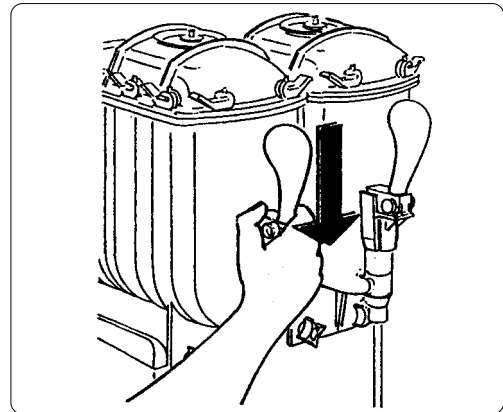

Fig. 19
g) Reposition the tap in its seating, ensuring it is inserted fully. Fill the tank with water, using the CIP system, until the water level in the tank reaches the cover, then turn off the water (fig. 19).